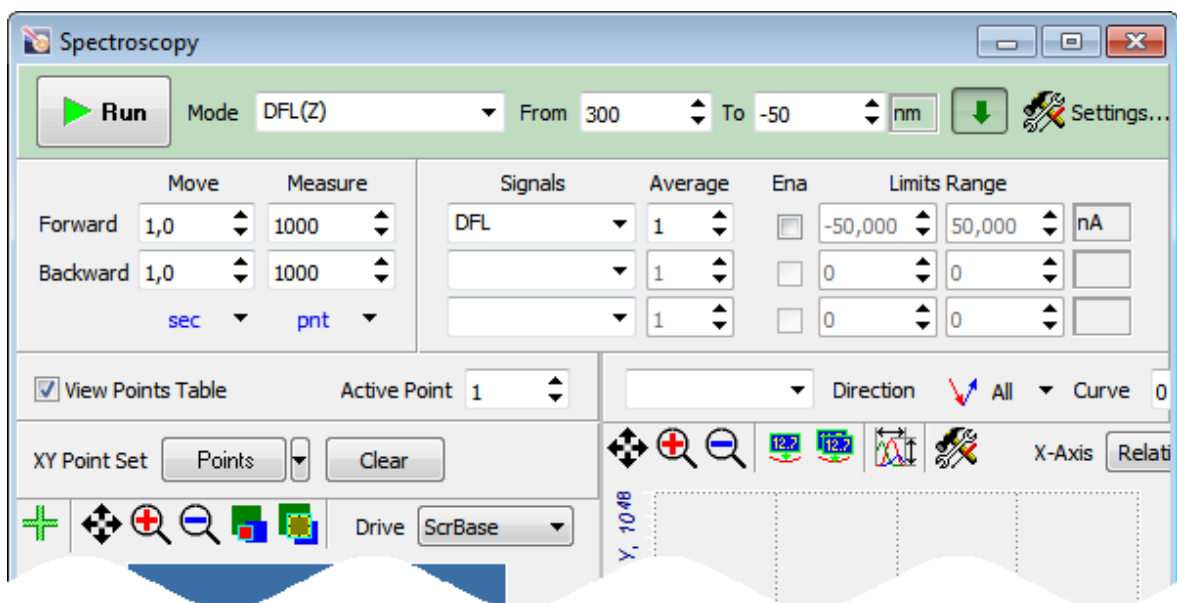

Fig. 11-2. Spectroscopy window
2. Open the **Spectroscopy** window by clicking the  button (Fig. 11-2).
3. In the **Mode** drop-down list, select **DFL(Z)** (see Fig. 11-2). The **Signals** list of the Spectroscopy parameters panel is appended with signals standard for the selected measurement mode (for the discussed mode, the standard signal is **DFL**).
NOTE. The Spectroscopy parameters panel is displayed in the **Spectroscopy** window if the  button is pressed in (see Fig. 11-2).